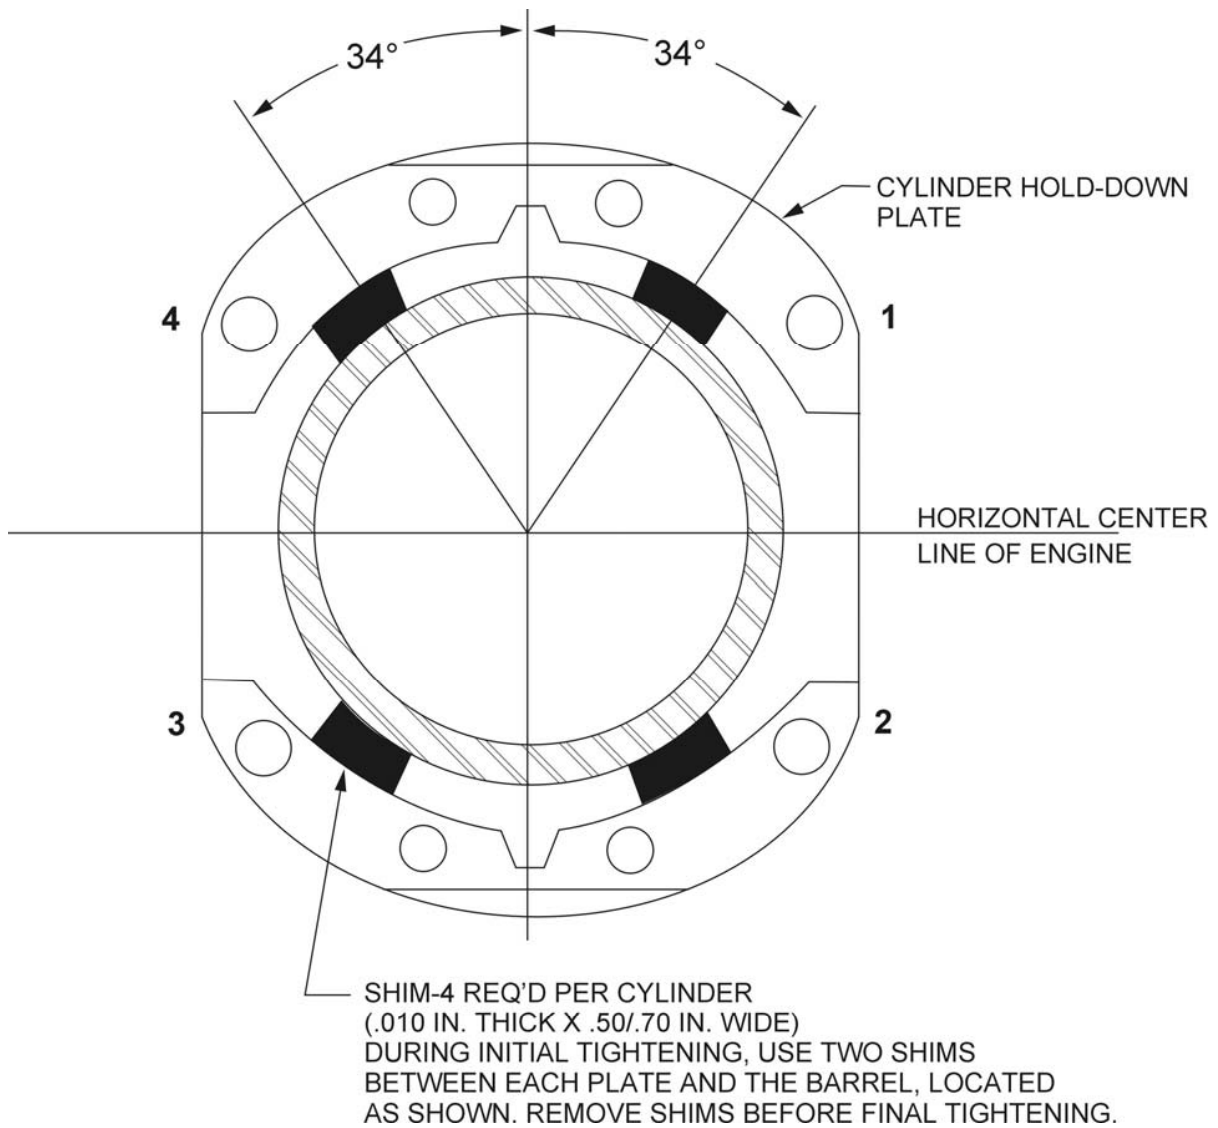

Figure 5-5. Location of Shims Between Cylinder Barrel and Hold-Down Plates (where applicable) and Sequence of Tightening Cylinder Base Hold-Down Nuts
- (a) (*Engines using hold-down plates*) – Install shims between cylinder base hold-down plates and cylinder barrel, as directed in Figure 5-5, and tighten ½ inch hold-down nuts to 300 in.-lbs. (25 ft.-lbs.) torque, using the sequence shown in Figure 5-5.
- (6) Install new shroud tube oil seals on both ends of shroud tube. Install shroud tube and lock in place as required for type of cylinder.
- (7) Assemble each push rod in its respective shroud tube, and assemble each rocker in its respective position by placing rocker between bosses and sliding valve rocker shaft in place to retain rocker. Before installing exhaust valve rocker, place rotator cap over end of exhaust valve stem.
- (8) Be sure that the piston is at top center of compression stroke and that both valves are closed. Check clearance between the valve stem tip and the valve rocker. In order to check this clearance, place the thumb of one hand on the valve rocker directly over the end of the push rod and push down so as to compress the hydraulic tappet spring. While holding the spring compressed, the valve clearance should be between .028 and .080 inch. If clearance does not come within these limits, remove the push rod and insert a longer or shorter push rod, as required to correct clearance.